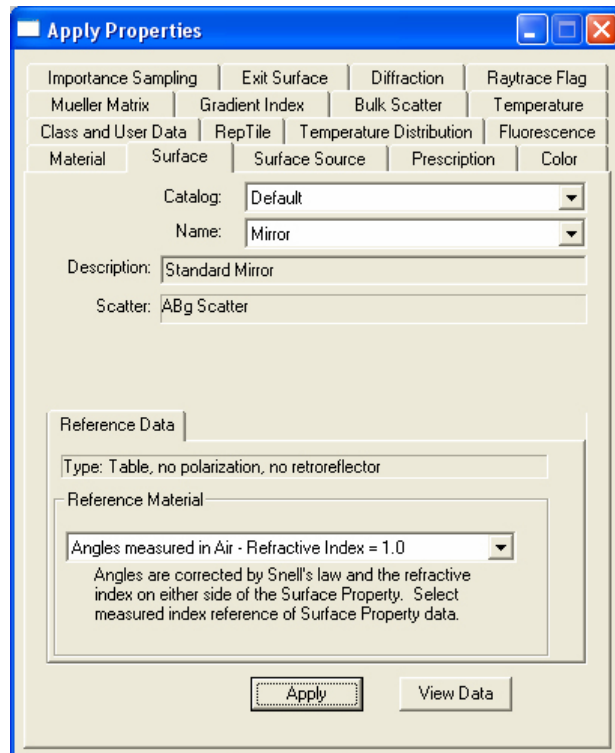

Figure 7. Apply properties for Mirror application.
14. Enter the parameters as shown in Fig. 7,